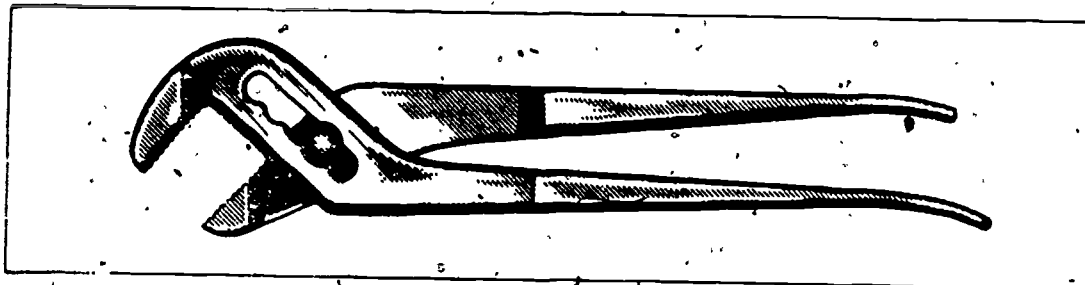

Figure 3-7 Water pump pliers
**Water pump pliers.** The water pump pliers, shown in figure 3-7, have a larger jaw opening and longer handles than the regular slip-joint pliers. They are used on larger materials where a greater grip is required. The precautions and maintenance procedures for these pliers are similar to those for slip-joint pliers.